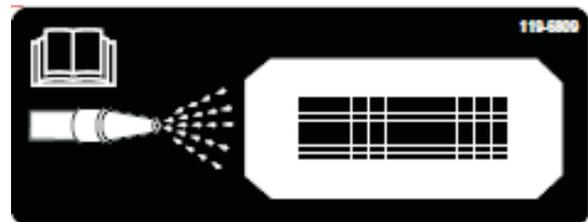

Figure 51
10. Locate the clean out decal on the front of the ProPass (Figure 51), using a garden hose, spray through the front guard mesh until the belly pan is completely clear of material (Figure 52).